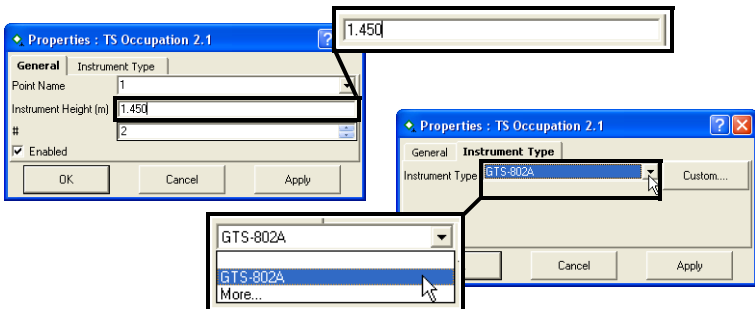

Figure 5-80. Enter New Parameters
3. On the *General* tab, edit the height of the instrument as needed (Figure 5-80).
4. On the *Instrument Type* tab, edit the type of instrument used as needed (Figure 5-80).